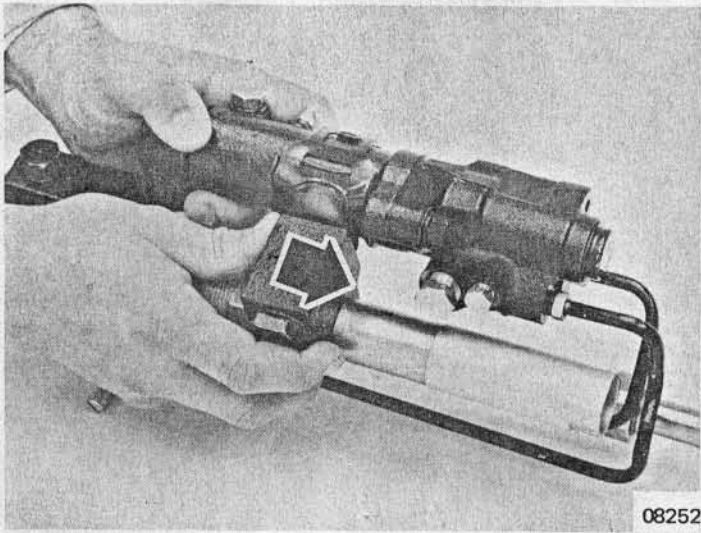

Figure 3. Control Valve Movement
- a. Grasp Power Steering assembly and move control valve in a parallel direction as shown in Figures 3 and 4. The valve must move between 1/16" (1.6mm) and 3/32" (2.4mm) in both directions, and return to center freely. About 10 lbs. (4.5kg) of force is required to move valve.